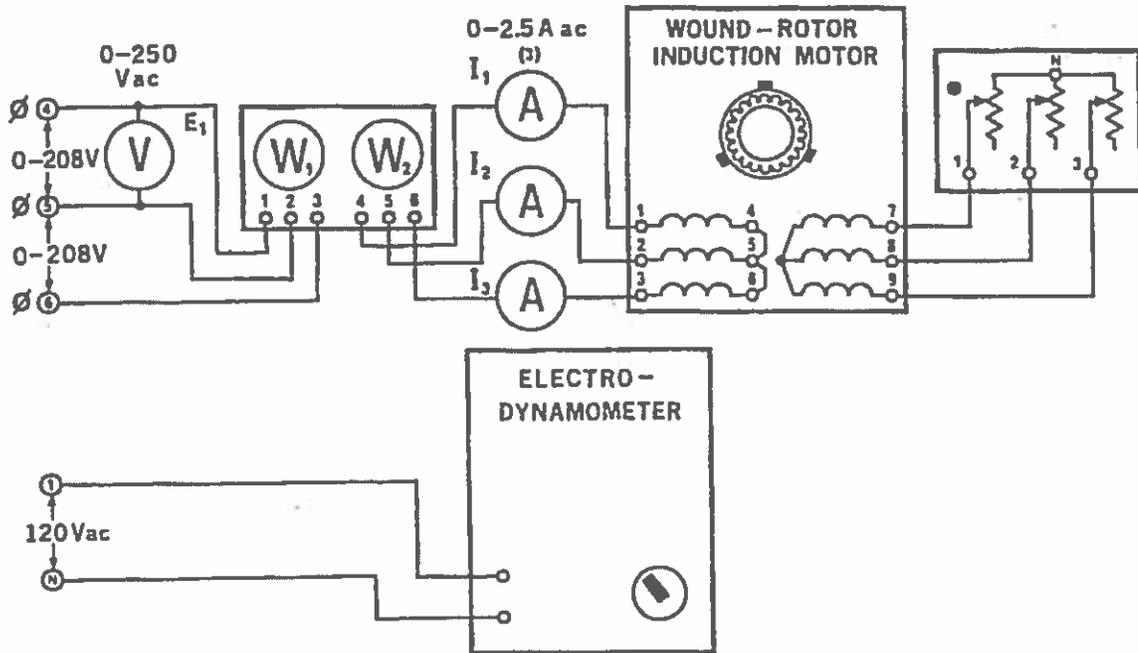

Figure 51-1.
2. Using your Three-Phase Wound-Rotor Induction Motor, Electrodynamicometer, Single-Phase Wattmeter, Three-Phase Rheostat, Power Supply, AC Ammeter and AC Voltmeter, connect the circuit shown in Figure 51-1. Do not couple the motor to the electrodynamicometer at this time!